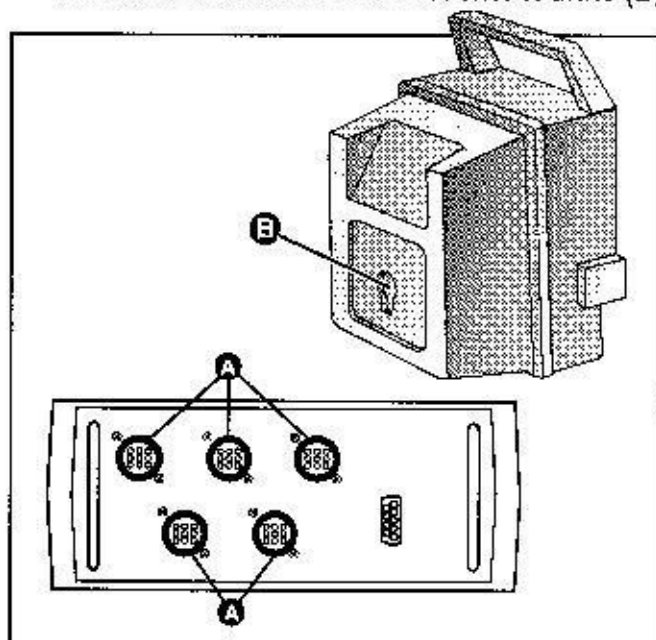

Figure 1-9
1. Connect other end of cables to any of the five wheel unit connector sockets (A) on the back of the Power Supply Interface Module.
2. See Figure 1-9. Connect supplied cables to connector sockets on front of wheel units (B).